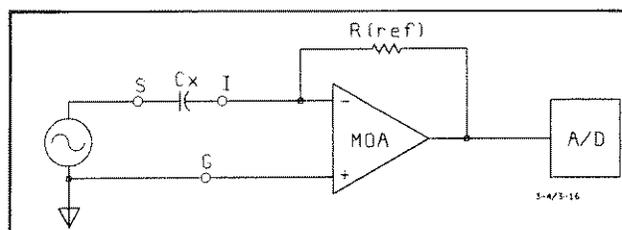

Figure 3-6. T3 Functional Block.
**3-17. T3—Capacitance Test.** The Capacitance Test, like the Inductance Test, Figure 3-6 measures capacitance for a parallel model. A synchronous A/D imaginary detector is used to measure MOA output voltage. The voltage measurement is displayed on the front panel or returned on the HP-IB as a negative voltage. Because most capacitors, with the exception of electrolytics and very large capacitors, are measured in the parallel mode, it is not necessary to convert to a series mode. However, if an electrolytic capacitor or a large capacitor is being measured, a second measurement should be made to determine the real part, and the formulas listed below should be used to convert the parallel capacitance to series capacitance.